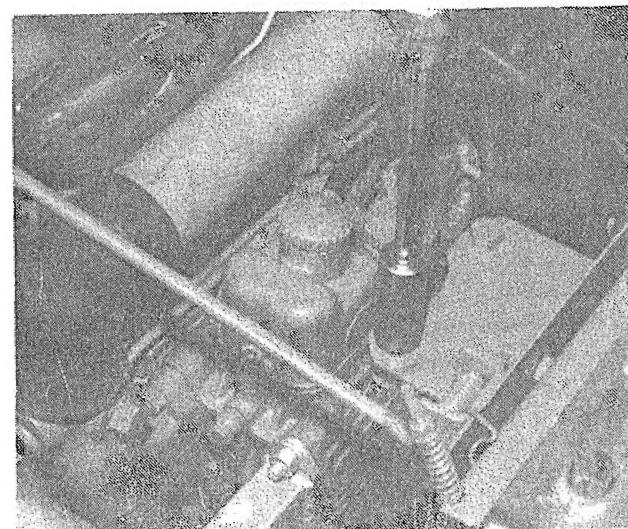
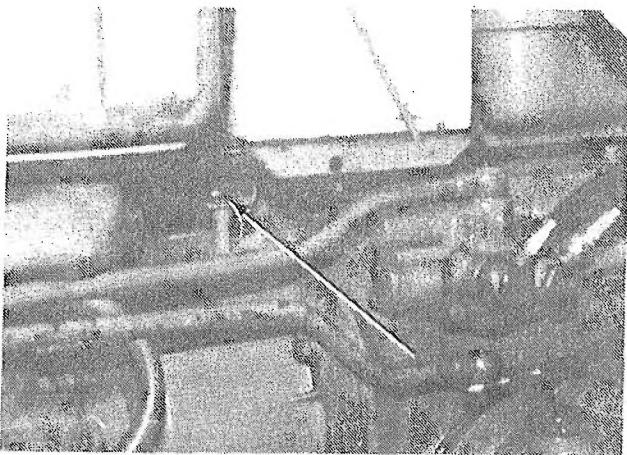

FIG. 4
FIG. 5
- (5) The (2) 10 x 16mm. bolts at the top (Fig. 4) and the (2) 8 x 55mm. bolts that secure the bottom of the battery case to the engine/bell housing assembly. (Fig. 5)